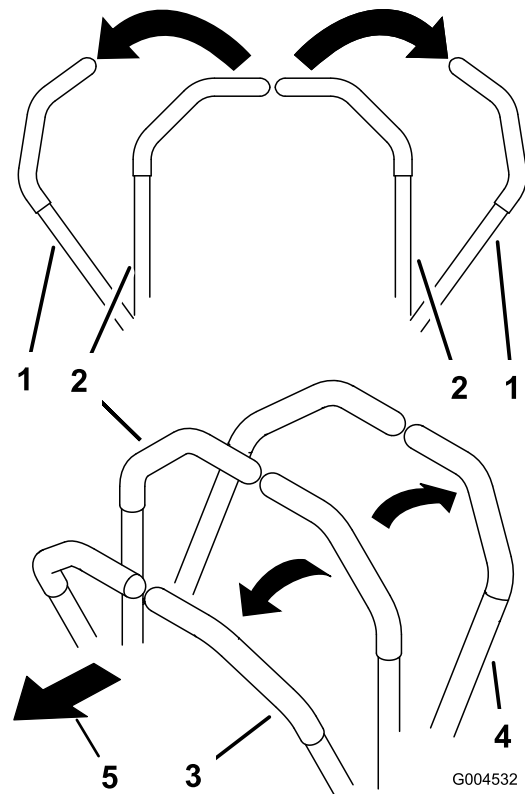

Figure 14
1. Move the control handles to the NEUTRAL-LOCKED position (Figure 14).